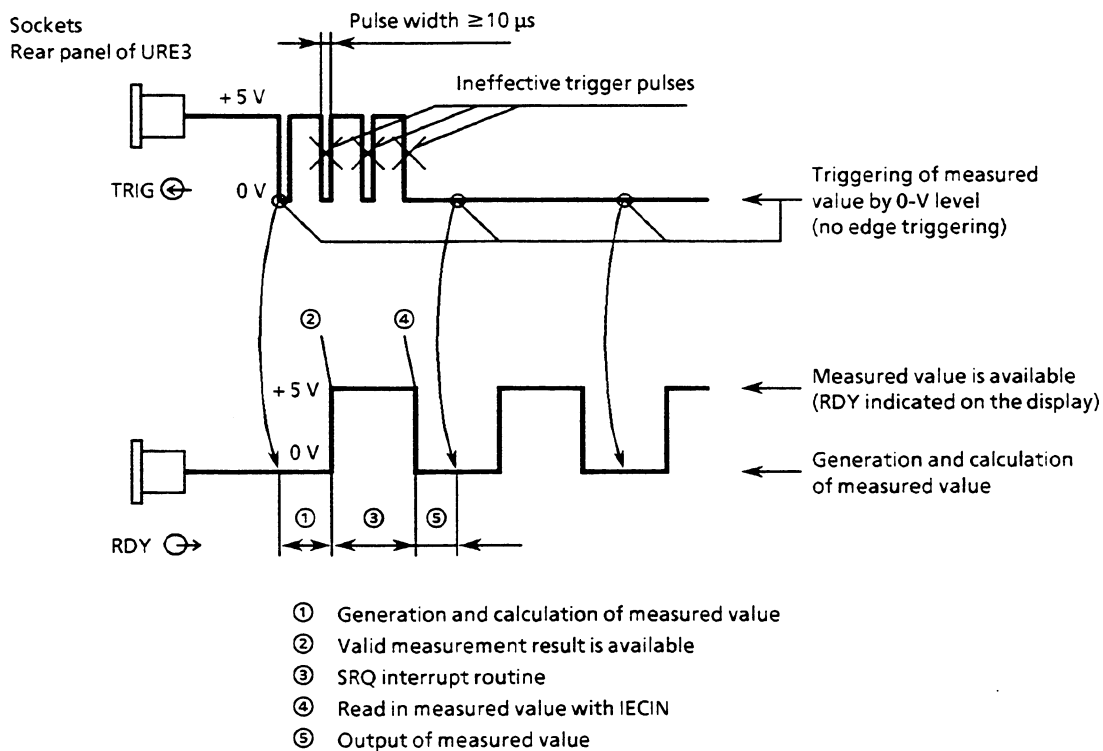

Fig. 3-8 Timing diagram external trigger input signal TRIG with Ready output signal RDY in the case of IEC-bus control
When enabled (ON), the external trigger input TRIG at the rear of the instrument permits individual measurement results to be triggered and read out on the display depending on an external trigger signal (→ Fig. 3-8).
Even in IEC-bus operation, a measurement result can be triggered by an external trigger signal (→ Fig. 3-8) that has been enabled by means of "TRIG:EXT:ON". The response to an external trigger in IEC-bus operation corresponds exactly to the response to a GET command (→ 3.5.4.2.7).
→ Fig. 3-8